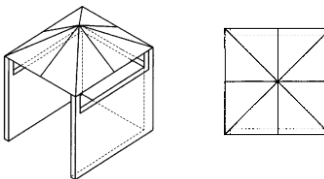

Figure 4 - Open side at least 25% of total wall area. 30% or more in total of the remaining wall area is open and unrestricted.
- At least 25% of the total wall area is completely open, (refer to Figure 4), and